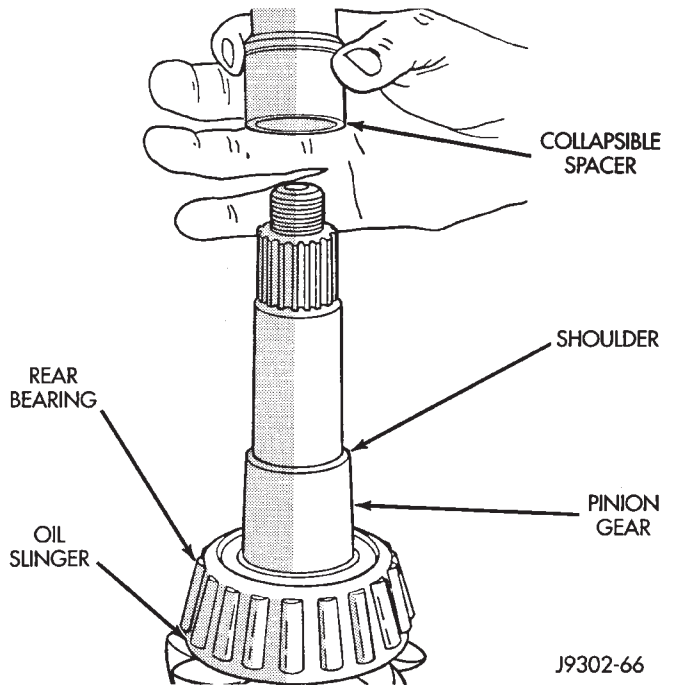

Fig. 41 Collapsible Spacer
(10) Remove the collapsible preload spacer from pinion gear (Fig. 41).